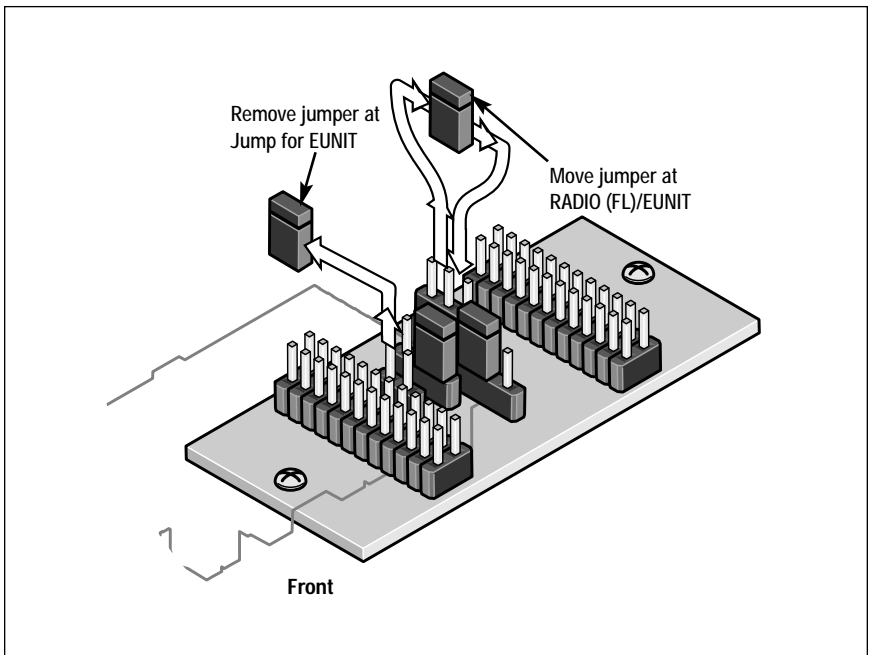

Figure 5. JUMP FOR EUNIT jumper position
3. As illustrated in Figure 5, move the jumper marked RADIO(FL)/EUNIT to the next position, leaving the opposite pin open.